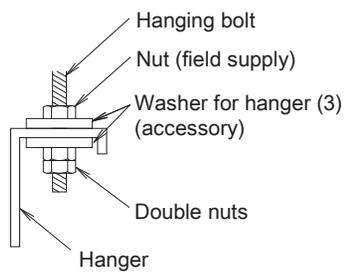

Fig. 10
- (1) Fix the hanger to the hanging bolt. (Refer to Fig. 10)**